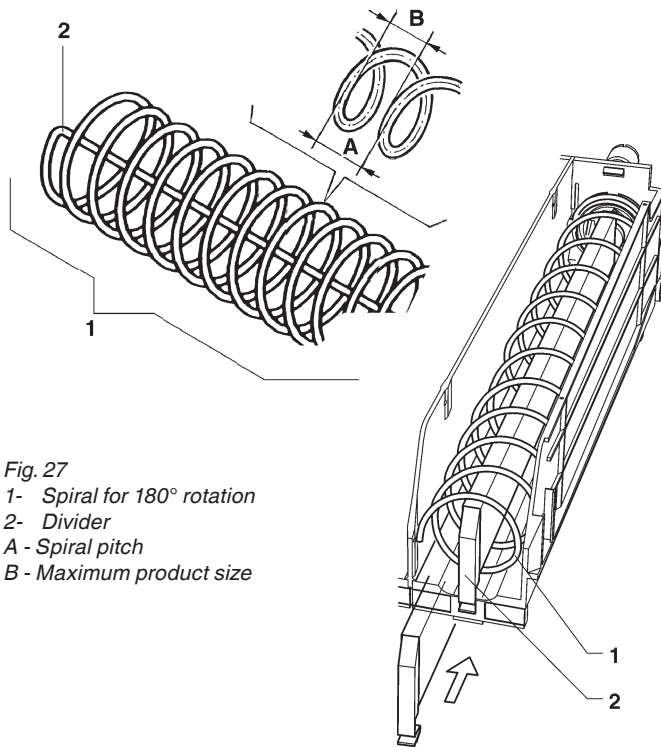

Fig. 27
- mounting a spiral complete with a divider (see fig. 27)
You can also insert a divider between already-existing spirals (see fig. 27)